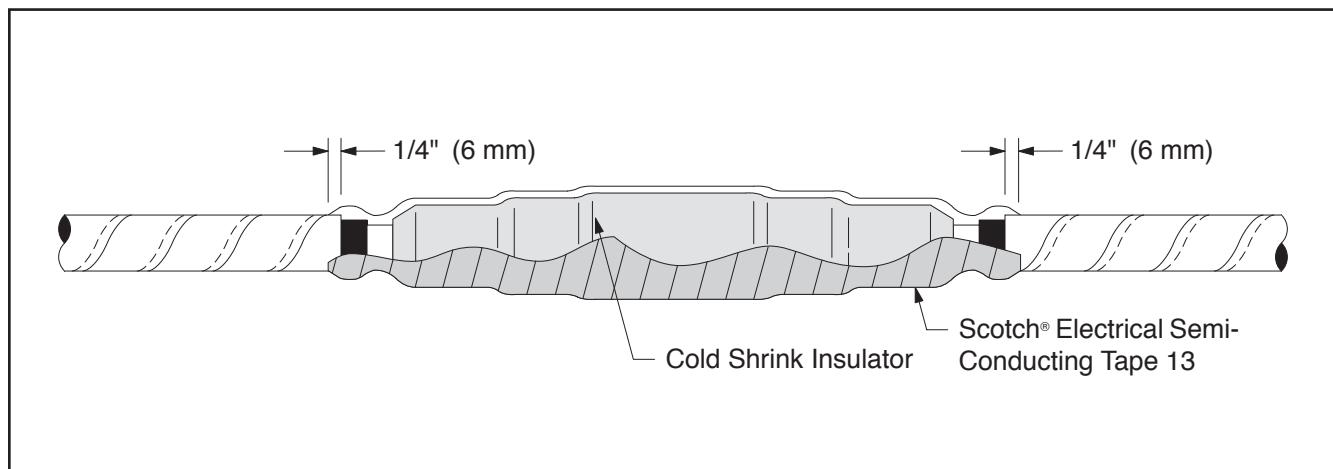

Figure 15
- b. Apply 1 half-lapped layer of Scotch[®] Electrical Semi-Conducting Tape 13 over insulation, starting and ending $1/4"$ -(6 mm) onto the cable's metallic shielding (Figure 15).